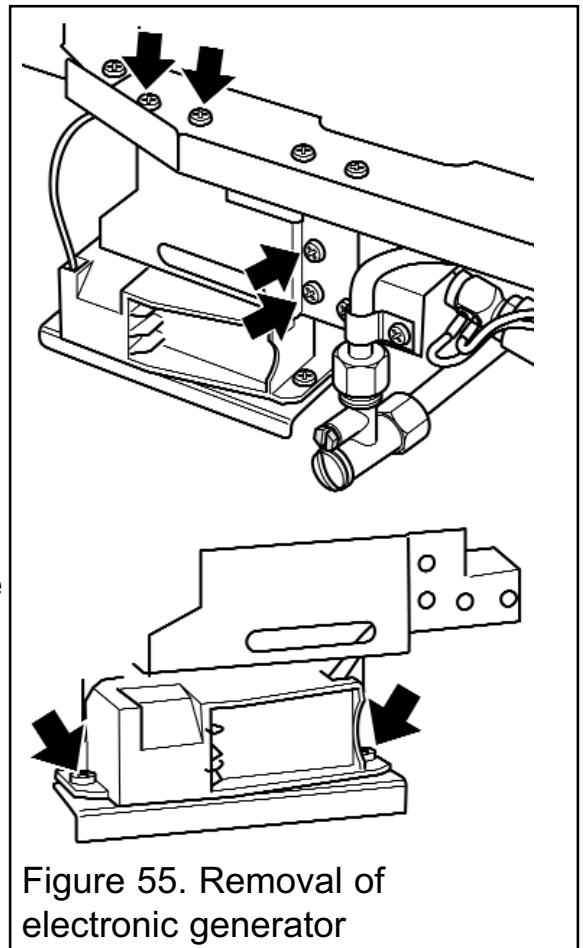

Figure 55. Removal of electronic generator
5. Unscrew the four support bracket screws (See figure 55). The generator and its support bracket can now be moved forward. Be careful not to apply tension to the microswitch leads.
6. Remove the two fixing screws that attach the generator unit to the support bracket. The igniter generator can now be removed (See figure 55)